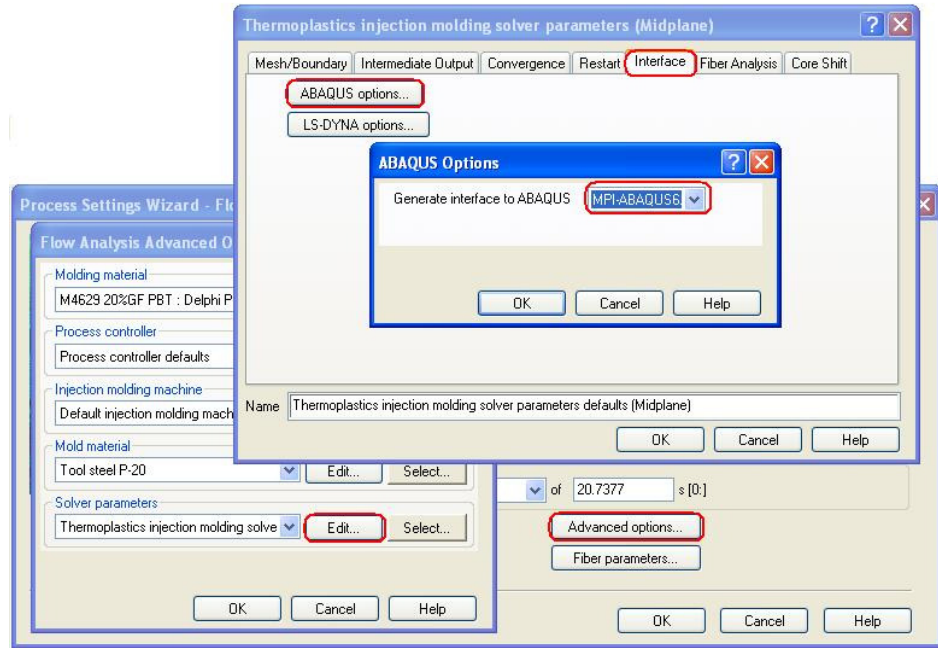

Figure 1: Select the ABAQUS interface before running the Moldflow/Midplane analysis.
1. Run a Moldflow/Midplane analysis with the ABAQUS interface option (see Figure 1):